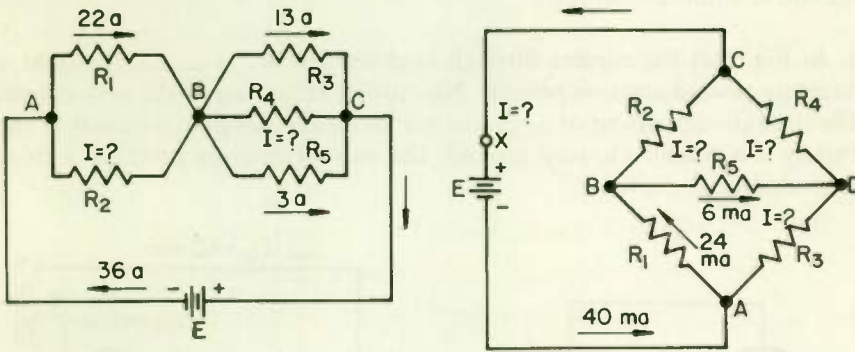

Fig. 3 (a)
2. In Fig. 3(a) what is the value and what is the direction of current through (a) R_2 and (b) R_4 ?
3. Refer Fig. 3(b). What is the value and what is the direction of current through (a) R_3 , (b) R_2 , and (c) R_4 ?
1. 6 amp 2. (a) 14 amp in the direction from junction A through R_2 into junction B . (b) 20 amp in the direction from junction B through R_4 into junction C . . . The known current entering junction B is 36 amp: 22 amp through R_1 and 14 amp through R_2 . The known current leaving junction B is 16 amp: 13 amp through R_3 and 3 amp through R_5 . Since the known current leaving junction B (16 amp) is less than the known current entering the junction (36 amp), the remainder of the current (20 amp) must leave the junction through R_4 . Thus, the current entering junction B (22 amp + 14 amp) is equal to the current leaving the junction (13 amp + 20 amp + 3 amp). Another way to work this problem is to note that the currents entering junction C (13 amp + 20 amp + 3 amp) must equal the current leaving the junction (36 amp). 3. (a) 16 ma in the direction from junction A through R_3 into junction D (b) 18 ma in the direction from junction B through R_2 into junction C (c) 22 ma in the direction from junction D through R_4 into junction C . . . A current of 6 ma enters junction D through R_5 , and a current of 16 ma enters the same junction through R_3 . The current through R_5 is obtained from Fig. 3, and the current through R_3 was determined in part (a) of this problem. Since the sum of the currents entering junction D (6 ma + 16 ma) must equal the current leaving that junction, a current of 22 ma leaves junction D through R_4 in a direction toward junction C . As a check, the current entering junction C (18 ma + 22 ma) must equal the current leaving junction C (40 ma).